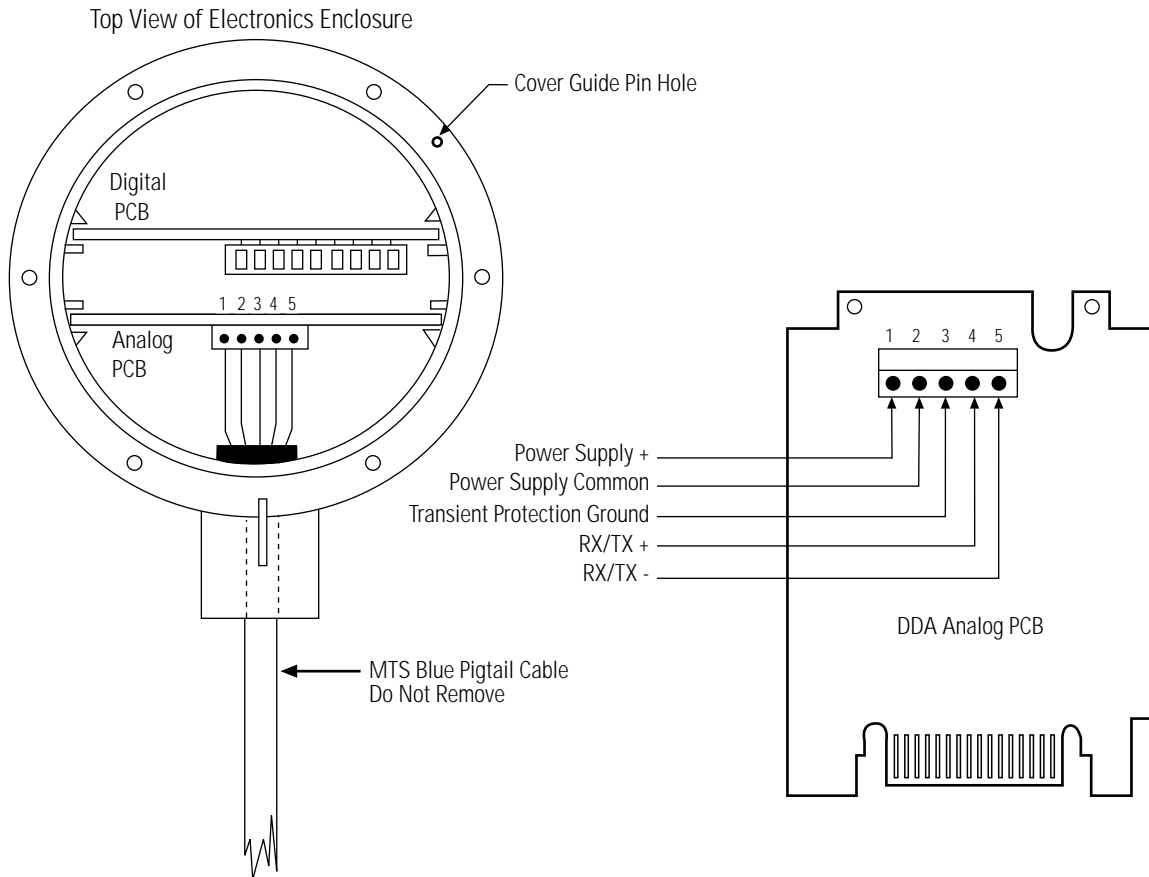

Figure 9.9 Digital and Analog Card Identification
The analog card is always installed in the slot nearest the conduit entry. The analog card can be identified by the 5 position terminal block at the top of the card and the 25 position edge card connector at the bottom of the card. The wiring terminal block is always located towards the conduit entry. See figure 9.9.
The digital card is always installed in the slot furthest from the conduit entry. The digital card can be identified by the 9 position hardware/address decode switch at the top of the card and the 15 position edge card connector at the bottom of the card. The hardware/address decode switch is always located towards the analog card. See figure 9.9.
5. When reconnecting the interface wires, the connections are as shown in figure 9.9. Always inspect each connection to insure the wire is properly connected and that there are no loose wire strands shorting between the individual terminals.